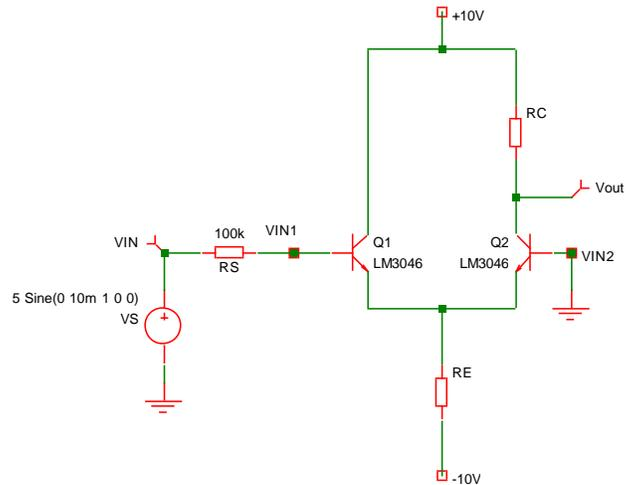

Fig. 4: Input impedance measurement setup.
- Insert a 100 kohm resistor to the Q1 base (see Fig. 4).